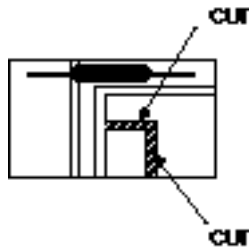
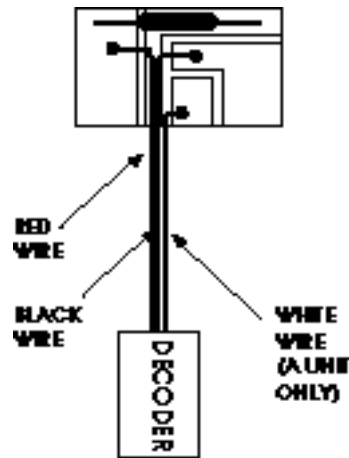

Fig. 1
Fig. 2
- Lay the light board out in front of you, resistor side up as shown (Fig. 1). Use an A unit headlight board with parts removed for B units. With a sharp hobby knife make a cut in the circuit trace as shown (Fig. 1). Attach the BLACK and RED wires as shown (Fig. 2). Solder WHITE wire to light board as shown (Fig 2). If you want to make the headlight work in both directions, solder the YELLOW and WHITE wires in the same spot. For B unit do not hook up the YELLOW or WHITE wires to the light board.